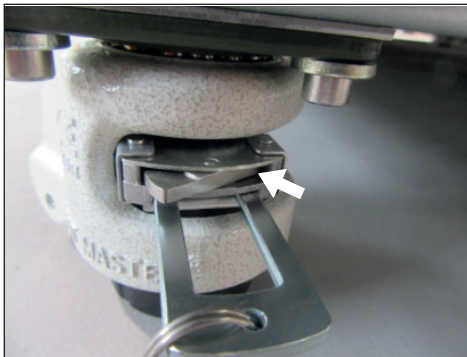

Fig. 11 To extend the stand, press in the right-hand rocker
- ▶ Press in the rocker on the right side to extend the stand with the ratchet lever (Fig. 11).